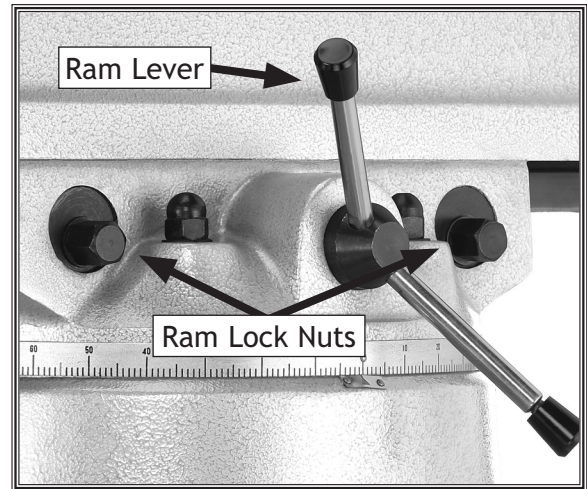

Figure 17. Ram adjustment.
2. Loosen the two ram lock nuts on the side of the ram (see **Figure 17**).